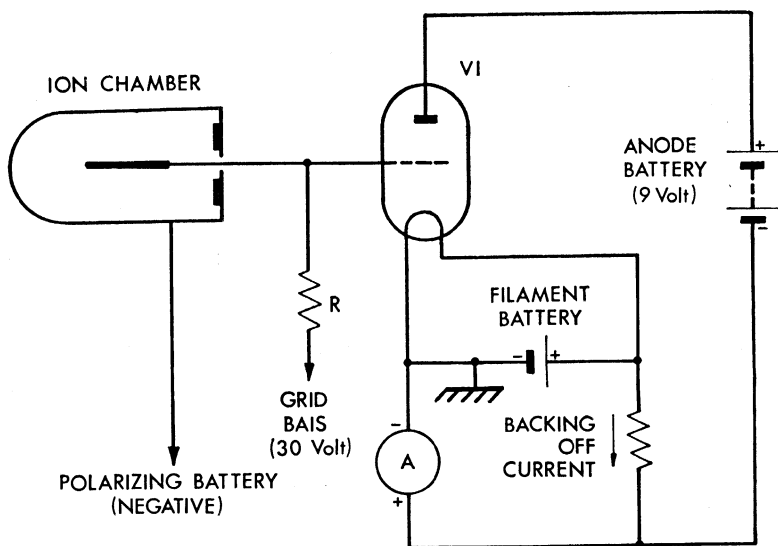

Fig 13—Basic circuit diagram
57. The basic circuit is shown diagrammatically at Fig 13.
58. The pointer in the meter is adjusted to ZERO by adjusting the valve grid bias until the anode current is equal to the "backing off" current (see Fig 13).